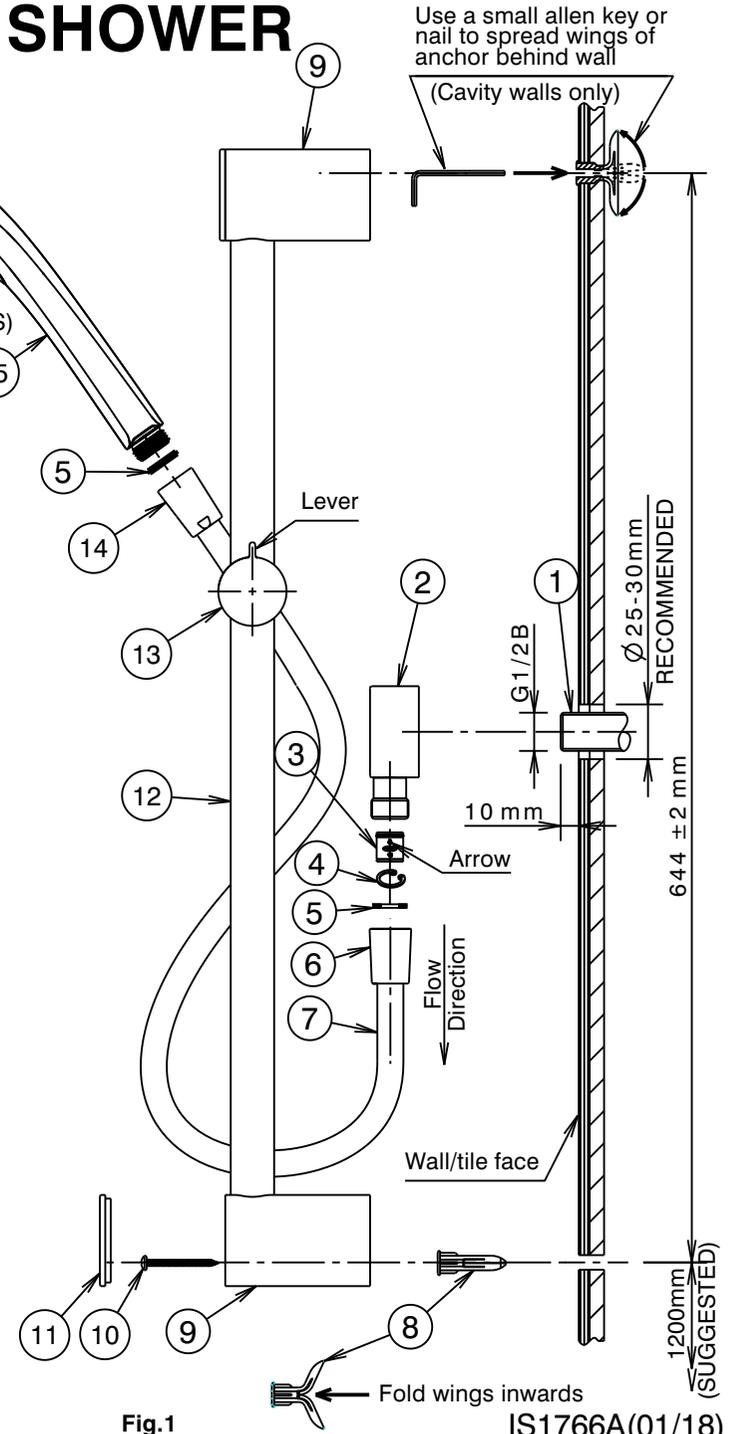

Fig.1
- ii) Fold the wings of the anchors (10) inwards, as shown.
- iii) Insert the folded anchor (8) into each drilled hole and tap until the head is flush with the wall surface.
- iv) Insert a small allen key or nail into the hole of the anchor (8) to spread the wings of the anchor behind the wall (Fig.1).